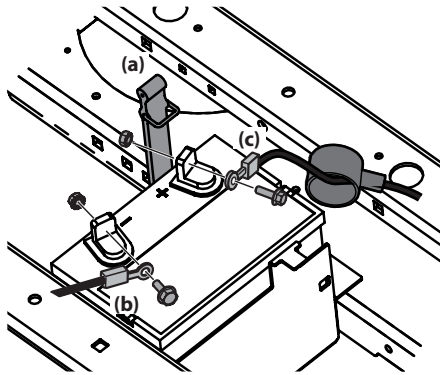

Figure 4-5
2. Unhook the strap (a) holding the battery in place. See Figure 4-5